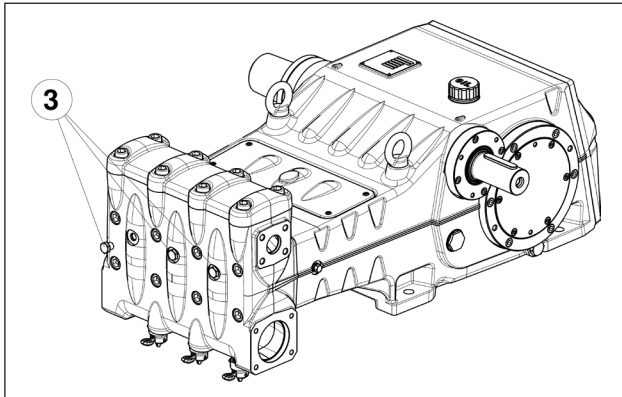

Fig. 11
Should there be any priming trouble due to insufficient supply, it is possible to remove the three plugs in front of the head (except for the LK36 version) as shown in pos. ③ Fig. 11.